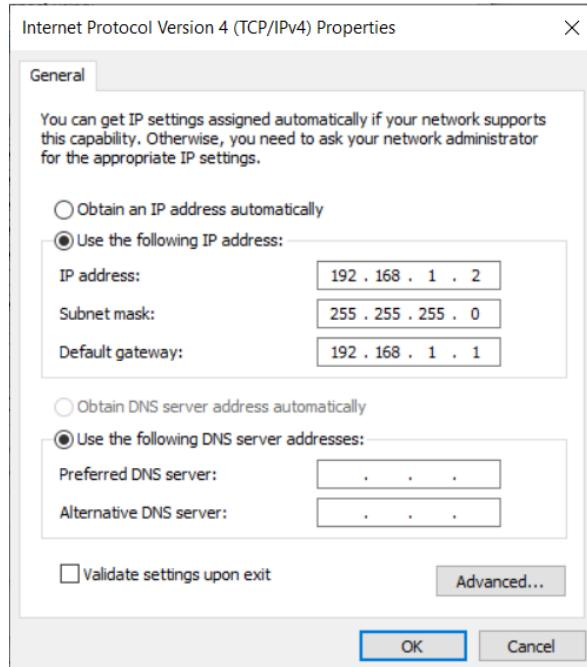

Figure D.5. Configure the Settings
5. Configure the IP address, subnet mask, and default gateway settings as shown in Figure D.5 and then click **OK**.